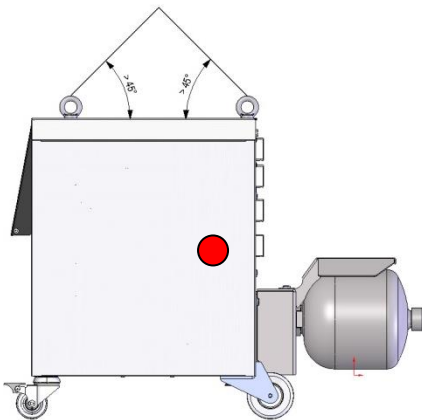

Fig. 6: Suspension points
1. Attach the ropes and straps according to Fig. 6.
2. Make sure that the unit hangs straight. Pay attention to offset centre of gravity (→ ● Fig. 6).